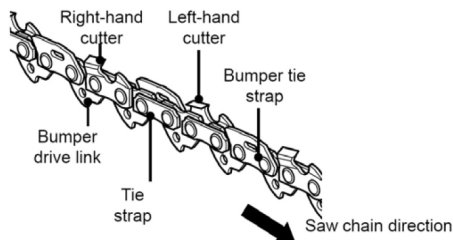

Fig. 28a
2). The height difference between the tooth and the ridge is the cutting depth. When sharpening the saw chain (D6) you have to consider the following points. (See Fig. 28a)